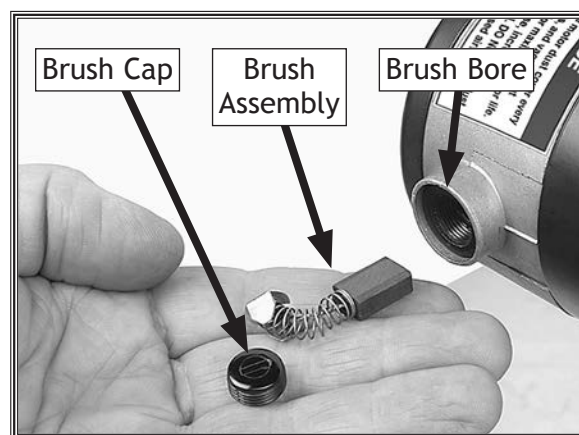

Figure 55. Feed motor brush and cap.
3. Unscrew the brush caps from both sides of the motor, and remove the brushes, as shown in Figure 55.